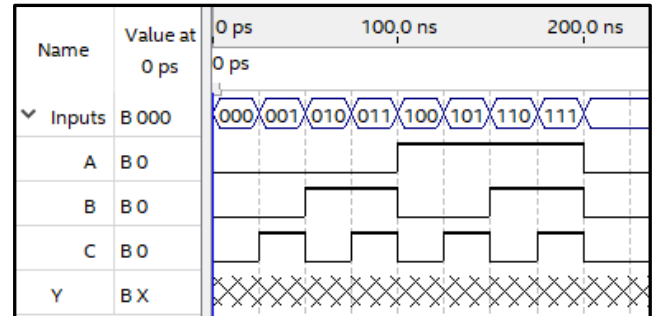

Figure 12: Grouping on vwf
2. Click on the arrow next to Inputs to expand your group. You should see something similar to Figure 12.